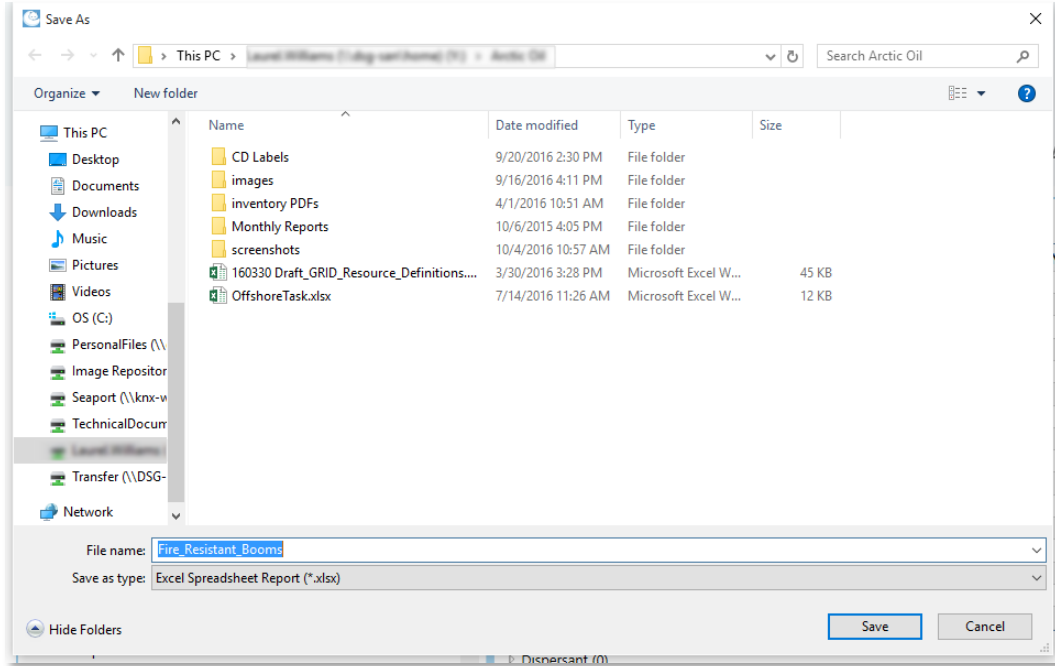

Figure 22- Save As Dialog Box
- The standard “Save As” window displays, browse to the correct folder on your local hard drive or servers to save the exported file. Type in a **File Name**, verify **File Type** (.xlsx or .csv), and click the **Save** button (Figure 22).